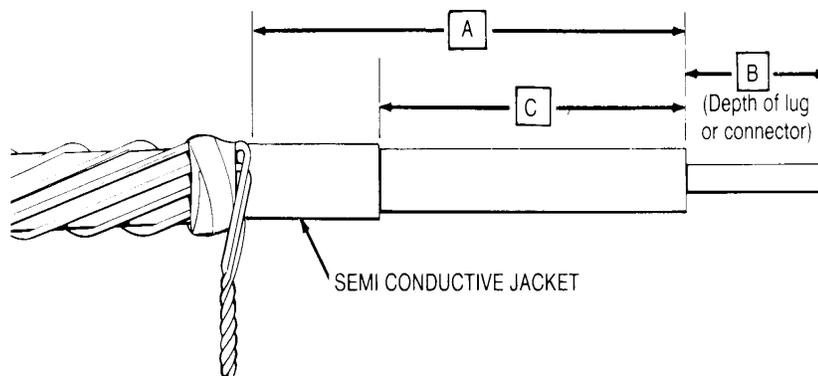

Figure 1b (CN Cable)
3. Bind concentric neutral wires from cable end a distance of A plus B. See Figure 1b and Dimension Table below. Allow sufficient neutral wire length for neutral connection.